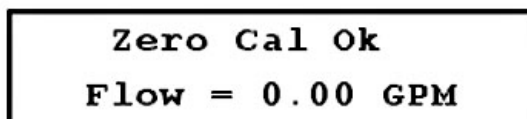
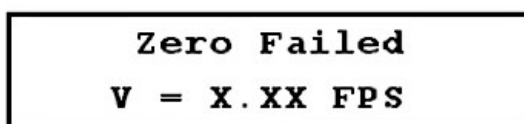

Figure 5-39. Zero set calibration successful
Figure 5-40. Zero set calibration failed
3. Select **No Flow**. If the zero flow set calibration is successful, Figure 5-39 is displayed. If the flow rate is too high to perform a zero flow set calibration, Figure 5-40 is displayed. In this case, continue to step 4.
4. If Figure 5-40 is displayed, press any key and repeat steps 1 through 3 when the flow rate is within required limits.